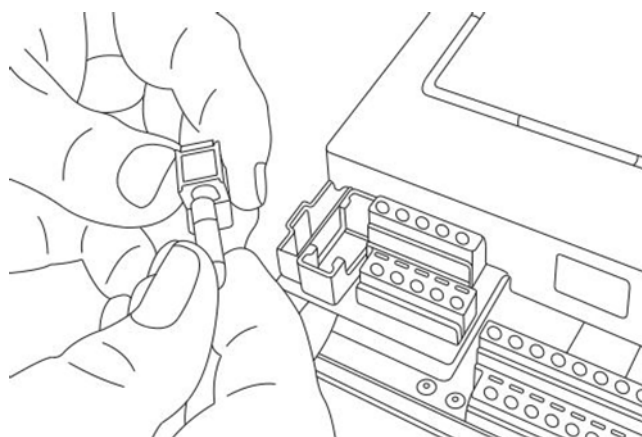

Figure 76. Removing the fuse
4. Remove the fuse from the fuse cover. Refer to Figure 76.